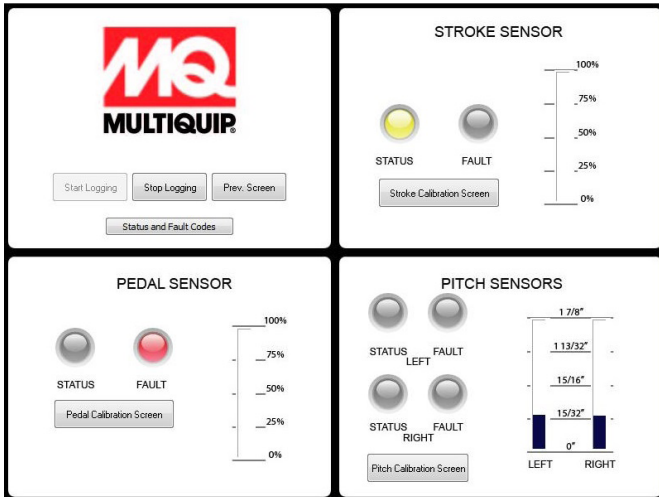

Figure 27. Calibration Button
3. Click "PEDAL CALIBRATION SCREEN" button in "PEDAL SENSOR" frame (Figure 27).